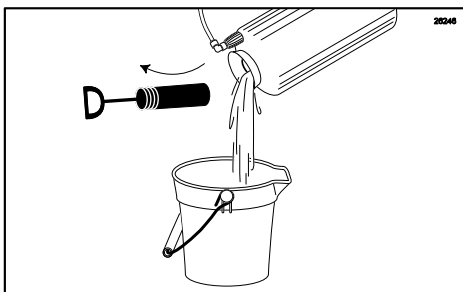

Figure 83
- Remove the hand pump from the Sanitizer Tank and discard any remaining sanitizer. (See Figure 83.)